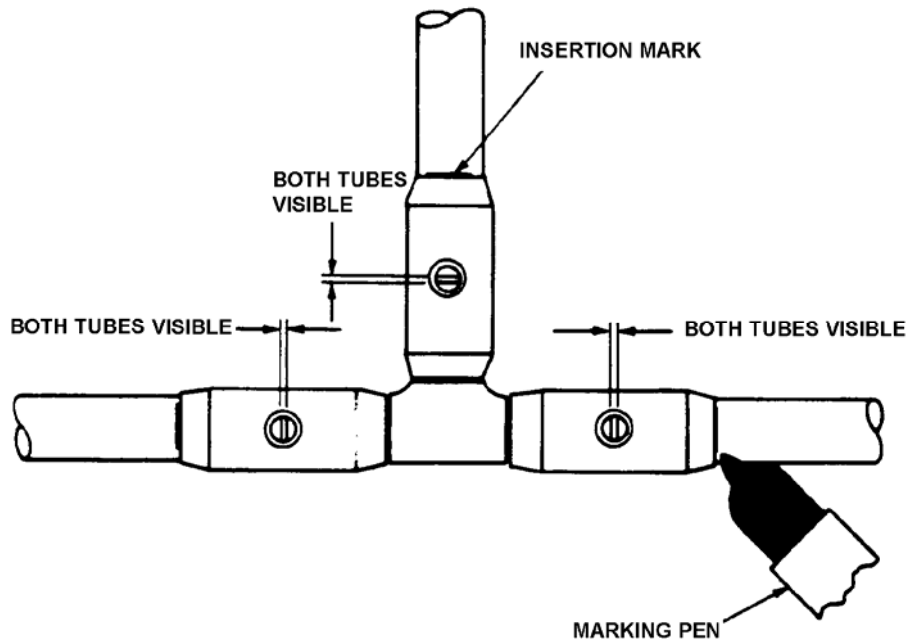

Figure 11. Locating Insertion Marks on Tee Assembly
f. With the test coupling positioned against the fitting shoulder, draw a line on the tube at the opposite end of the test coupling. This is the insertion mark (Figure 11).